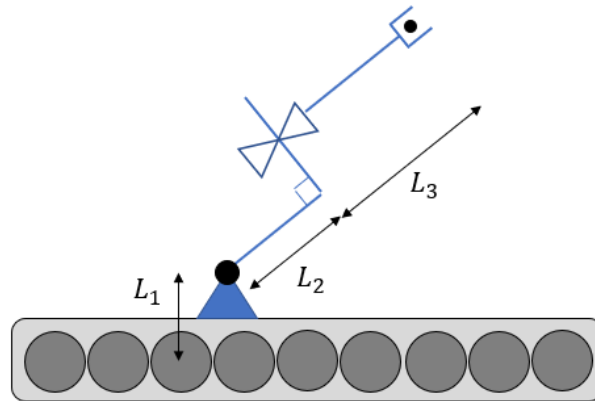

Figure 2.1: A 2-DOF RP robot placed on a linear stage
2. A 2-DOF RP robot is placed on a linear stage, as shown in Figure 2.1.